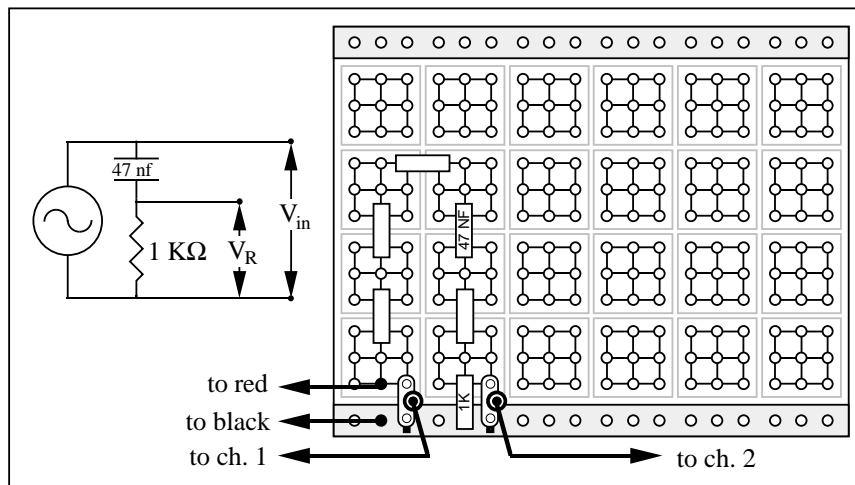

Figure 3: RC Circuit Schematic
1. Build the series RC circuit with the plug board kit as shown Fig. 3. The raised bump on one leg of the BNC-banana-plug adapter indicates which leg is ground; it corresponds to the little black square in the figure.